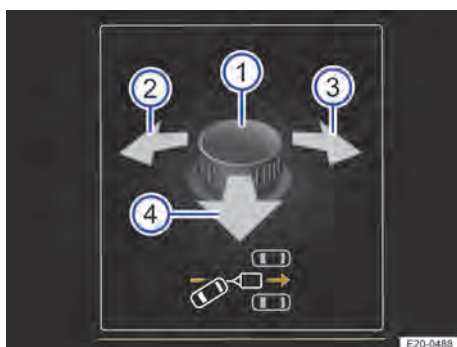

Fig. 121 On the instrument cluster display: adjusting the angle of the trailer using the rotary knob for the exterior mirrors.
- ① Rotary knob for adjusting the exterior mirror position.
- ② Align the trailer to the left.
- ③ Align the trailer to the right.
- ④ Reverse the vehicle and move the trailer towards the target position.
- ⑤ Current trailer position.
- ⑥ Target trailer position.
- ⑦ Zero position on the angle display.
3. Tilt the rotary knob in the driver door until the desired direction is reached → Fig. 121 ①.